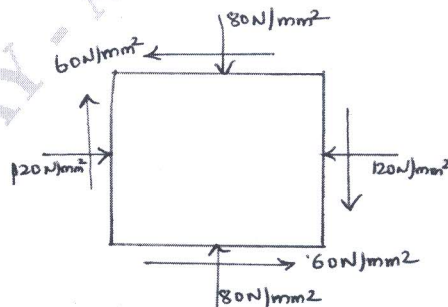

Fig.Q3(b)
- The state of stress in two dimensionally stressed body is as shown in Fig.Q3(b). Determine the principal planes principal stresses, maximum shear stress and their planes.